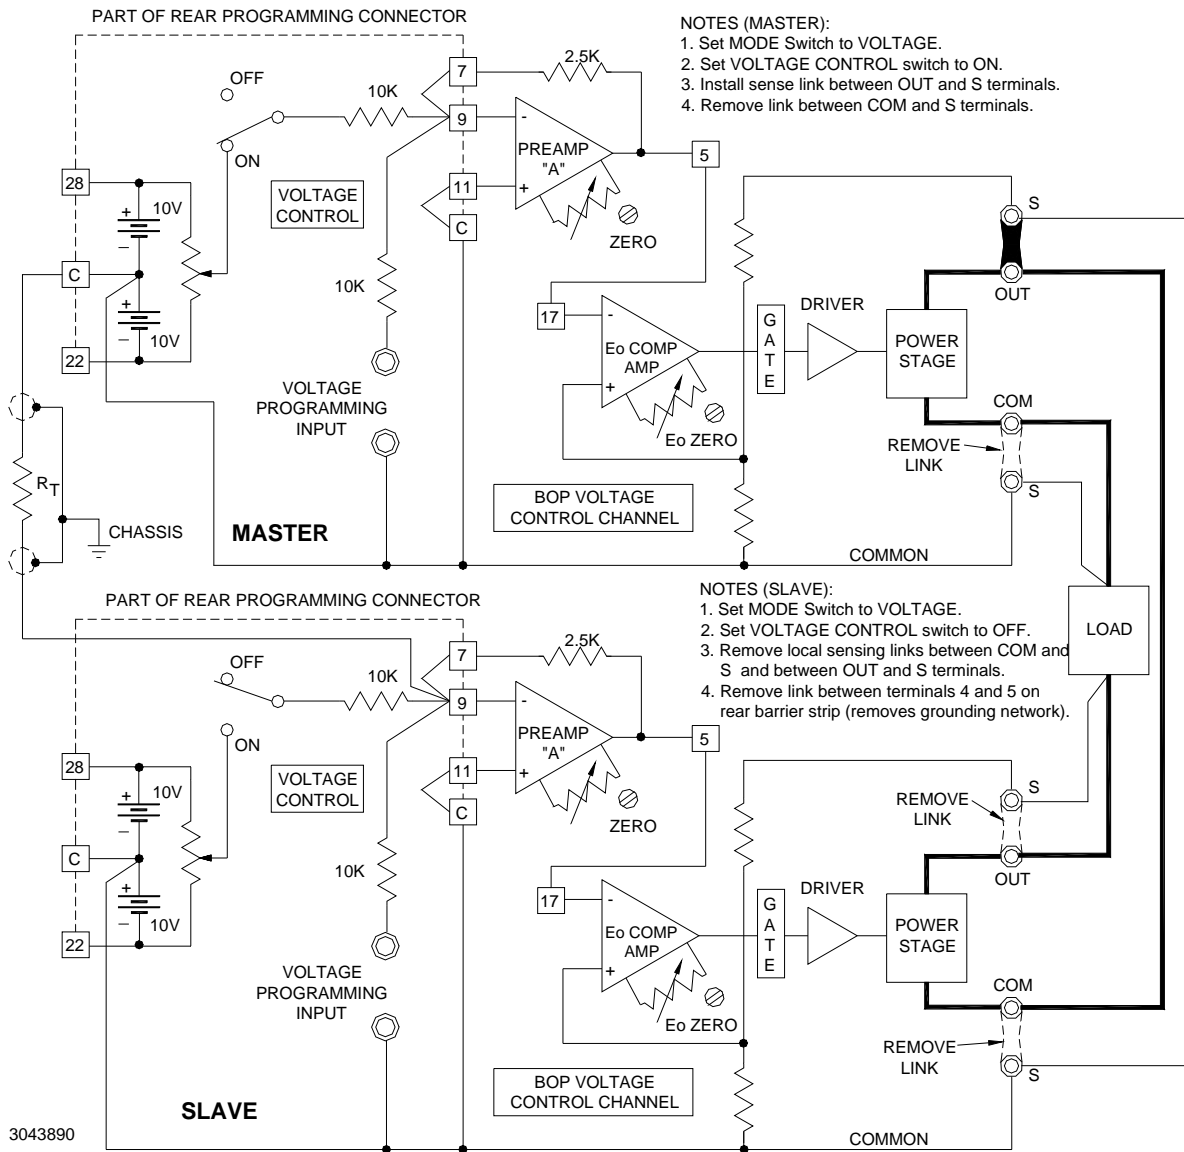

FIGURE 3-23. SERIES CONNECTION (MASTER/SLAVE) OF TWO BOP POWER SUPPLIES, WITH REMOTE ERROR SENSING AT THE COMMON LOAD
Two or more BOP power supplies can be connected in series to increase output voltage. One series-connection limitation is the isolation limit of the BOP itself (500V); contact Kepco if more than three units in series are required. Figure 3-23 shows a master/slave connection of two BOP power supplies.
To extend the concept of series connection to more than two BOP units, refer to FIG. 3-23. The BOP unit now designated the SLAVE becomes the new MASTER for the next BOP unit to be added and so on, up to the desired number of BOP's in series. Simply place the BOP outputs in series and connect a further coupling resistor (R_T) from the present SLAVE, terminal [C] to the new SLAVE, front panel VOLTAGE PROGRAMMING INPUT. Place the MODE switch on the BOP added to the series combination to VOLTAGE and the VOLTAGE CONTROL switch OFF.
1. Connect the BOP supplies as shown in Figure 3-23. Set the MODE switches and the VOLTAGE CONTROL switches as directed in the set-up diagram, Figure 3-23.
2. Turn BOP's on and begin operation. The system as shown in Figure 3-23 operates in Voltage Mode, since the Master MODE switch is in VOLTAGE position. For operation in Current Mode, transfer the Master MODE switch to CURRENT.